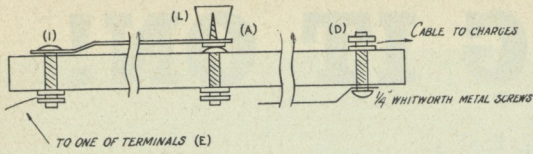

FIG. 2
Once again the stores are normal issue except the "Ripple" switch. This can quite easily be made up in the unit. It consists of a switchboard with a number of contact studs (A) arranged in a semi-circle over which a contact arm (B) can be moved. The base of the switchboard (C) can be made from plywood or any other insulating material. The contact studs may be standard round head screws with nuts to fasten to the base and (Fig 2) for connecting wires to the circuit terminals (D). These terminals may again be standard screws as before; there will be one terminal for each contact stud. In addition two further terminals (E) are required, one of which is connected to the battery (G) and to the common return lead (H) and the other to the battery and to the rotor arm (B).